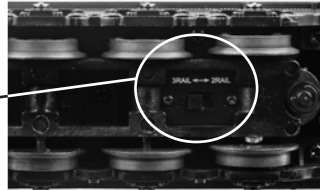

Figure 4: 2-rail / 3-rail switch
2. Change the power input from 3-Rail to 2-Rail as seen in figure 4 (above).
2. Change the power input from 2-Rail to 3-Rail as seen in figure 4 (above).